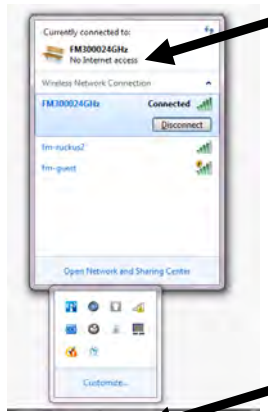

Figure 1
1. Ensure the computer is connected to the same Wi-Fi network that the fryers are connected to (see Figure 1).